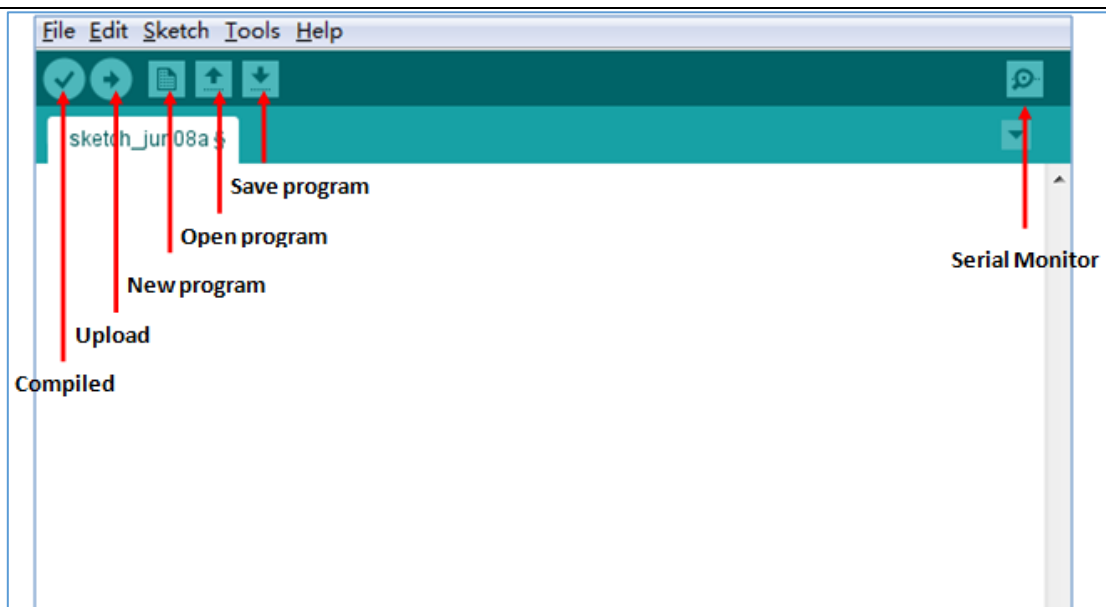

Figure 2.1.12 Arduino IDE Interface
1、 The first thing you can see is the interface of the following figure. The functions of the toolbar buttons are "Compile" - "Upload" - "New Program" - "Open Program" - "Save Program" - "Serial Monitor", as shown in Figure 2.1.12.